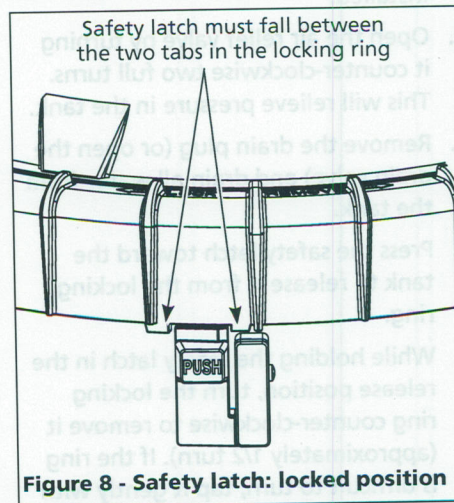

Figure 8 - Safety latch: locked position
9. Secure the locking ring by turning it clockwise until the safety latch clicks into place (approximately 1/2 turn). The latch should fall between the two tabs on the ring (Figure 8). The ring may be slightly loose, but it will tighten when the pump turns on. If the locking ring will not fully engage the latch, turn it counter-clockwise to remove the top assembly and return to step 2, ensuring the cartridge is properly seated and the o-ring is lubricated and properly seated.